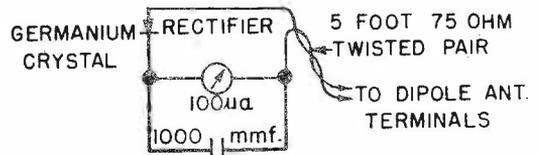

Fig. 1
2. Field Strength Meter (Fig. 1). This meter may consist of a D.C. 100 microampere (full scale) meter, shunted by a 1000 mmf. mica by-pass condenser; a crystal rectifier connected in series with the meter and a five foot, 75 ohm twisted, pair of leads. The open ends of the leads are connected to the dipole antenna terminals. *Connect condenser directly across meter terminals, and crystal directly to one terminal of meter. Keep connecting leads as short as possible.*